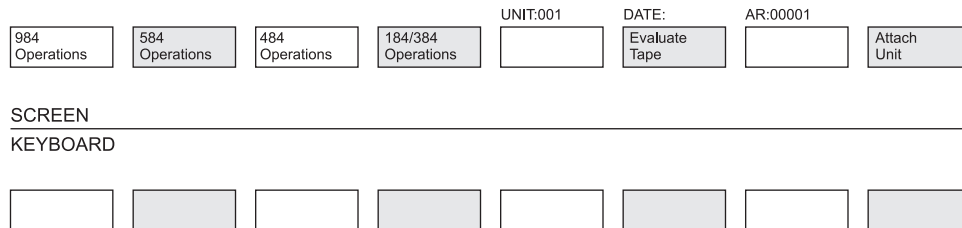

Figure 2-1
- 5. Press the <### operations> (Controller #; i.e., 184,584,984) software label key. See Figure 2-1.**